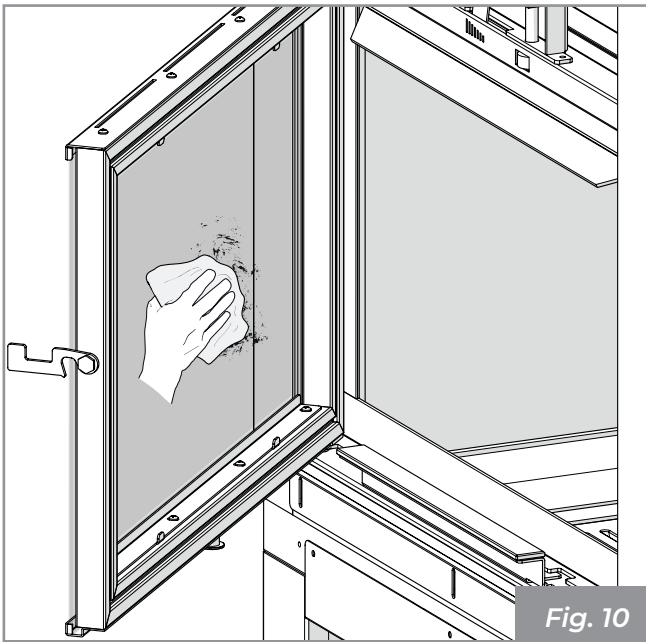

Fig. 10
- 2) Clean the glass with a damp cloth or with paper moistened and dabbed in the ashes (**Fig. 10**).